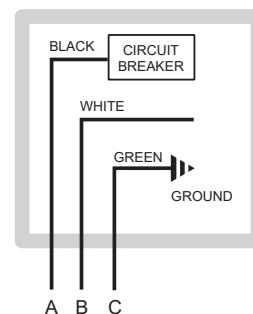
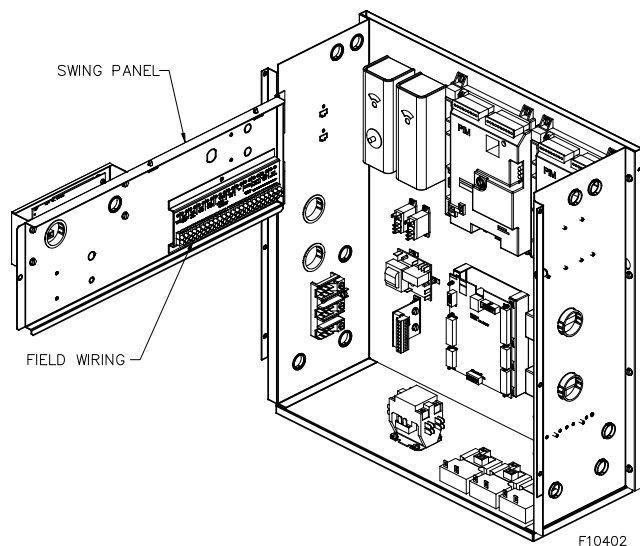

Figure 29. Wiring Connections
Figure 32. Low Voltage Field Wiring Location
**⚠ WARNING:** Using a multi-meter, check the following voltages at the terminal block inside the unit. Make sure proper polarity is followed and house ground is proven. (See Figure 29.)
Refer to **Figure 29** through **Figure 32**.